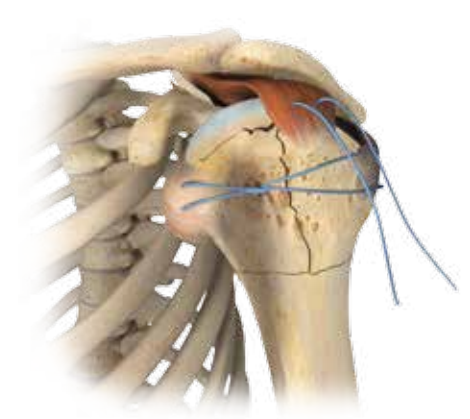

Figure 6
- Make a 2-part fracture by tying the head and tuberosities together, then reducing to the shaft (Figure 6)